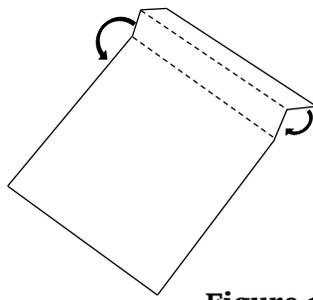

Figure 1
6. Have students fold the paper down about an inch along the short side. "Accordion" the paper by folding it back and forth to the end (Figure 1).